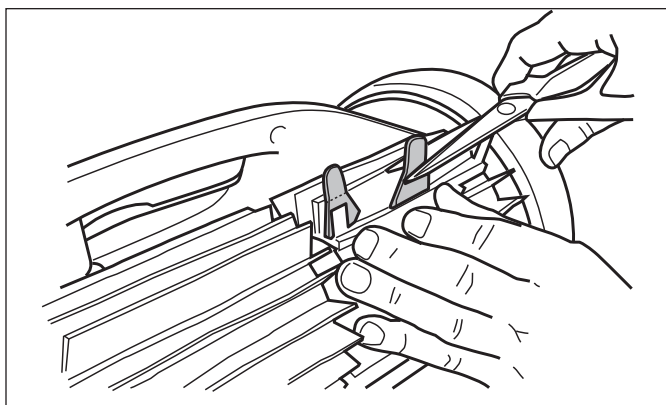

Figure 30. Cut Tabs
5. Use a pair of scissors to cut the tabs 3/4 inch from the heel so that they are no higher than the spikes (Figure 30).